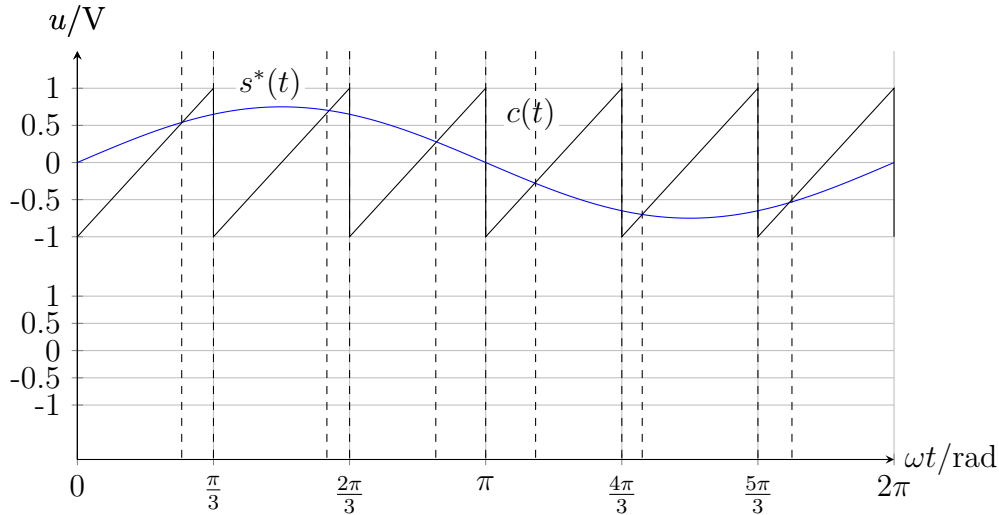

Figure 7.1.2: Output voltage $u_2(t)$ and fundamental voltage component $u_2^{(1)}(t)$.
7.1.1 Draw the converter's output voltage $u_2(t)$ belonging to Fig. 7.1.2. and its fundamental component $u_2^{(1)}(t)$. How large is the phase difference φ_{2i} of the voltage fundamental component $u_2^{(1)}(t)$ compared to the internal load voltage $u_{2i}(t)$?